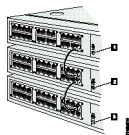

Figure 3-1 Daisy-Chained Ethernet Hubs
- a. **Top hub** - As shown in Figure 3-1 \(1\), ensure an RJ-45 Ethernet cable connects to port **24** and the medium-dependent interface (MDI) switch is set to **MDI** (in).
- b. **Middle hub** - As shown in Figure 3-1 \(2\), ensure the cable from the top hub connects to port **12**, the cable from the bottom hub connects to port **24**, and the MDI switch is set to **MDI** (in).
- c. **Bottom hub** - As shown in Figure 3-1 \(3\), ensure the cable from the middle hub connects to port **12** and the MDI switch is set to **MDIX** (out).